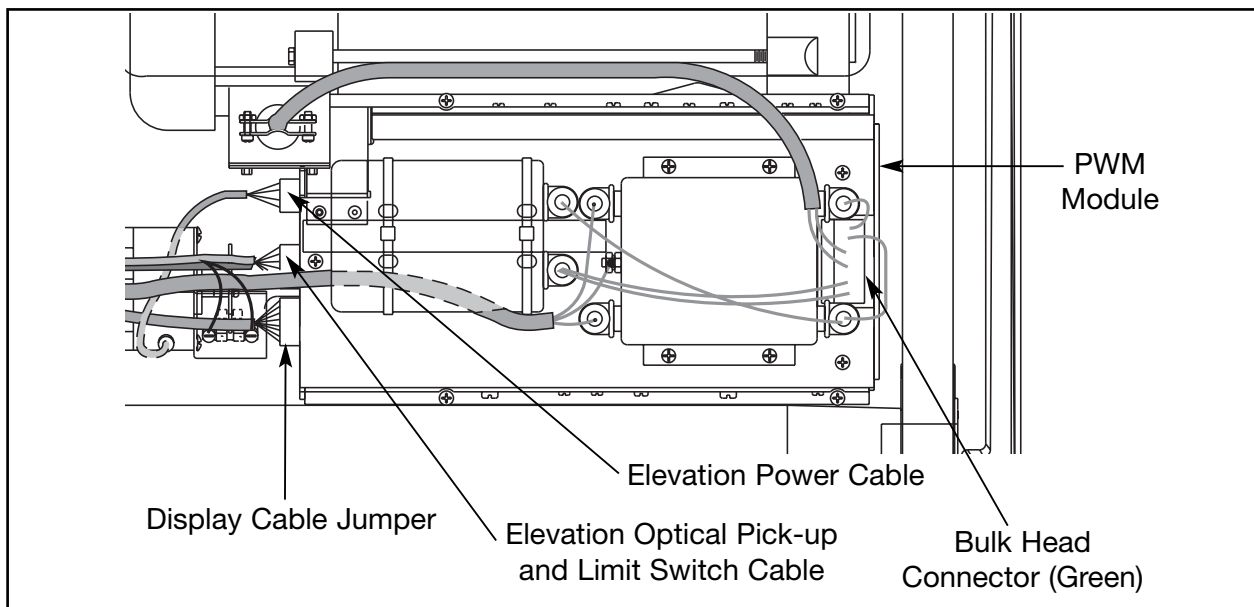

Figure 17
- A.** Turn the main power switch in the front panel to the off (O) position.
- A.** Unplug the four connectors from the PWM module; elevation optical pick-up cable, display cable jumper, elevation power cable and the bulk head connector. See Figure 17.